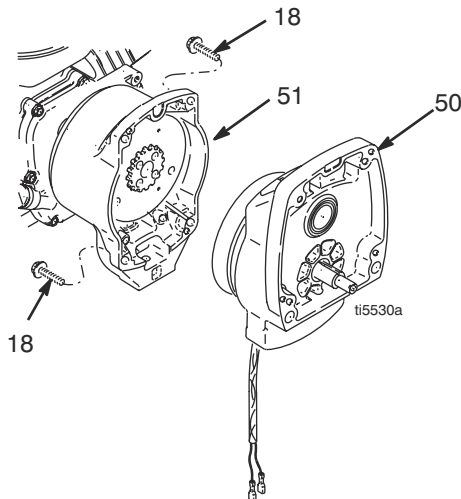
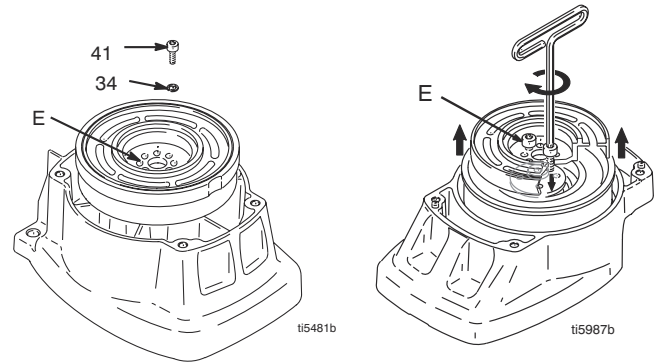

FIG. 3
FIG. 4
- a. Remove two screws (91) and swing down cover (77).
4. FIG. 3. Remove four screws (18) and pinion assembly (50).
5. FIG. 4. Place pinion assembly (50) on bench with rotor side up.
6. Remove four screws (41) and lock washers (34). Install two screws in threaded holes (E) in rotor. Alternately tighten screws until rotor comes off.
9. FIG. 4. Place pinion assembly on bench with rotor side up.
10. Apply locktite to screws. Install four screws (41) and lock washers (34). Alternately torque screws to 125 in-lb until rotor is secure. Use threaded holes to hold rotor.
11. FIG. 3. Install pinion assembly (50) with four screws (18).
12. FIG. 4. Connect clutch (A) and clutch (B) connectors to control board.
- ① Face of clutch housing
- ② 1.550 ± 0.010 in. (39.37 ± 0.25 mm)
- ③ Torque to 125 ± 10 in-lb (14 ± 1.1 N·m)
- ④ Chamfer this side